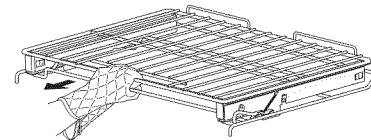

Figure 19: Pulling Glide rack to stop position
2. When the lock is released, pull the rack towards you until it stops (Figure 19).